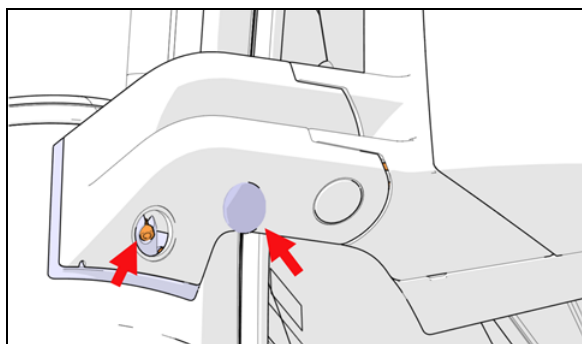

FIGURE 101
1. Remove the black plastic cap (Figure 101).
- Loosen the clamping screw (do not remove) so that the mirror unit can be lifted from the mounting plate (Figure 101).